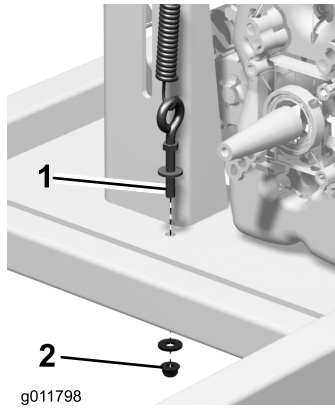

Figure 56
- A. Loosen the lower nut on the eye bolt and thread it to the end of the bolt (Figure 56).